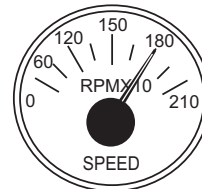

Figure 14. Engine Tachometer Gauge
11. The **tachometer gauge** (Figure 14) will indicate the speed of the engine in **RPM**. Under normal operating conditions this speed is approximately 1,800 rpm.